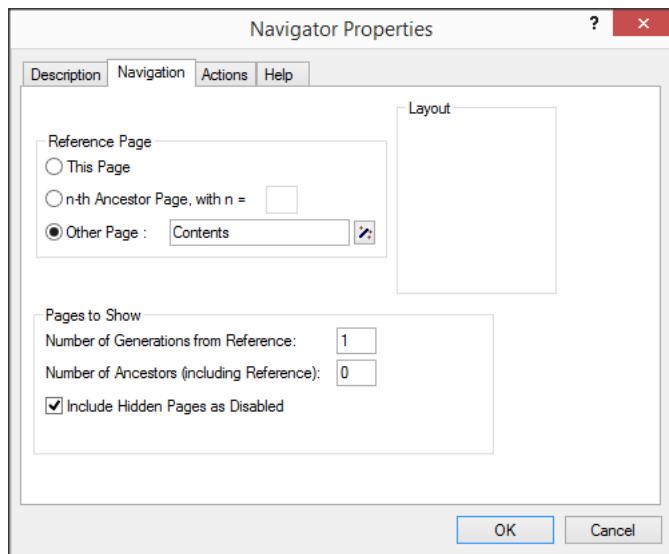

Figure 13.10: The completed **Navigation** tab of the **Menu Properties** dialog box
- ▶ select ‘Other Page’ as the option within ‘Reference Page’ (see also Figure 13.10),